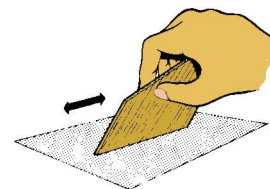

Figure 4
- **Step 7** Block-sand both sides of each fin to remove the excess glue. Do not sand hard enough to reduce the thickness of the fin! Round over the all of the outer edges of the fins with 400-grit paper, except for the root edge. Stack the six fins together and square up the root edge, as shown in Fig. 4.